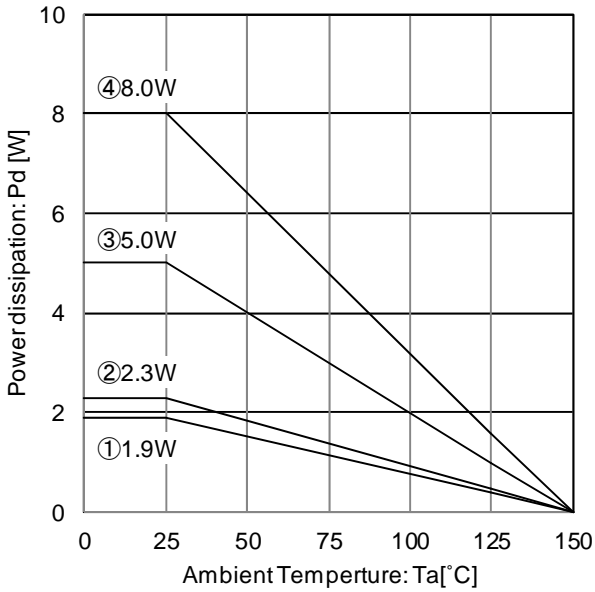

Figure 21. Package data of TO263-5F
Refer to the heat mitigation characteristics illustrated in Figure 21, 22 and the power dissipation under actual operating conditions should be taken into consideration and a sufficient margin should be allowed for in the thermal design. The amount of heat generated depends on the voltage difference across the input and output, load current, and bias current. Therefore, when actually using the chip, ensure that the generated heat does not exceed the Pd rating. Even if the ambient temperature Ta is at 25 °C, it is possible that the junction temperature Tj reaches high temperatures. Keep the whole operating temperature range within Tj ≤ Tjmax.
- Calculation example : with TO263-5F package , Ta = 105 °C, V_{CC} = 13.5 V, V_O = 5.0 V, board ③ (Figure 21.)
In case of board ③ in Figure 21, Ta = 105 °C
At Ta = 105 °C with Figure 21 ③ condition, the calculation shows that 211 mA of output current is possible at 8.5 V potential difference across input and output.
- Calculation example : with Tc (bottom) = 80 °C, V_{CC} = 13.5 V, V_O = 5.0 V, I_O = 200 mA, board ③ (Figure 21.)